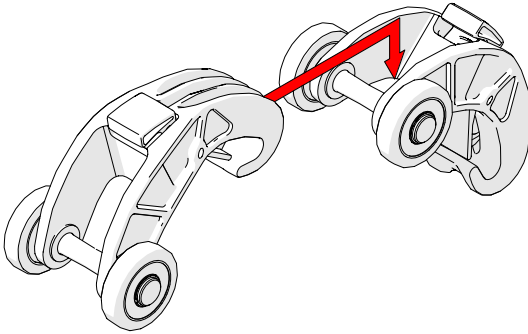

Fig. 68 - Lift the hook over the axle of the QuickLink
1. Lift the hook of the QuickLink over the axle of the QuickLink that is to be connected (Fig. 68).